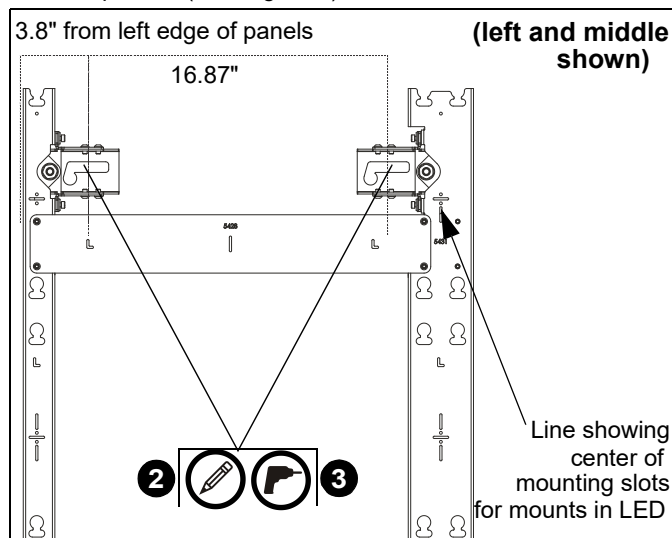

Figure 8
1. Hold furthest left, top wall mount against wall ensuring that mounting slot is lined up with center line marked on the wall in **Determining Installation Site** section. Double-check with a level. (See Figure 8)
2. Mark mounting holes in two top mounting slots along the horizontal line marked in Step 3. (See Figure 8)
NOTE: The mounting holes are 16.87" apart on-center for left (L) and center (M) or 16.01" for left (L) and right (N). The hole on the left will be 3.8" from the left edge of panels. (See Figure 8)
3. Drill two pilot holes (see Table 1 for size) at each location marked in Step 2 (See Figure 8) and follow fastener information located in Table 1.